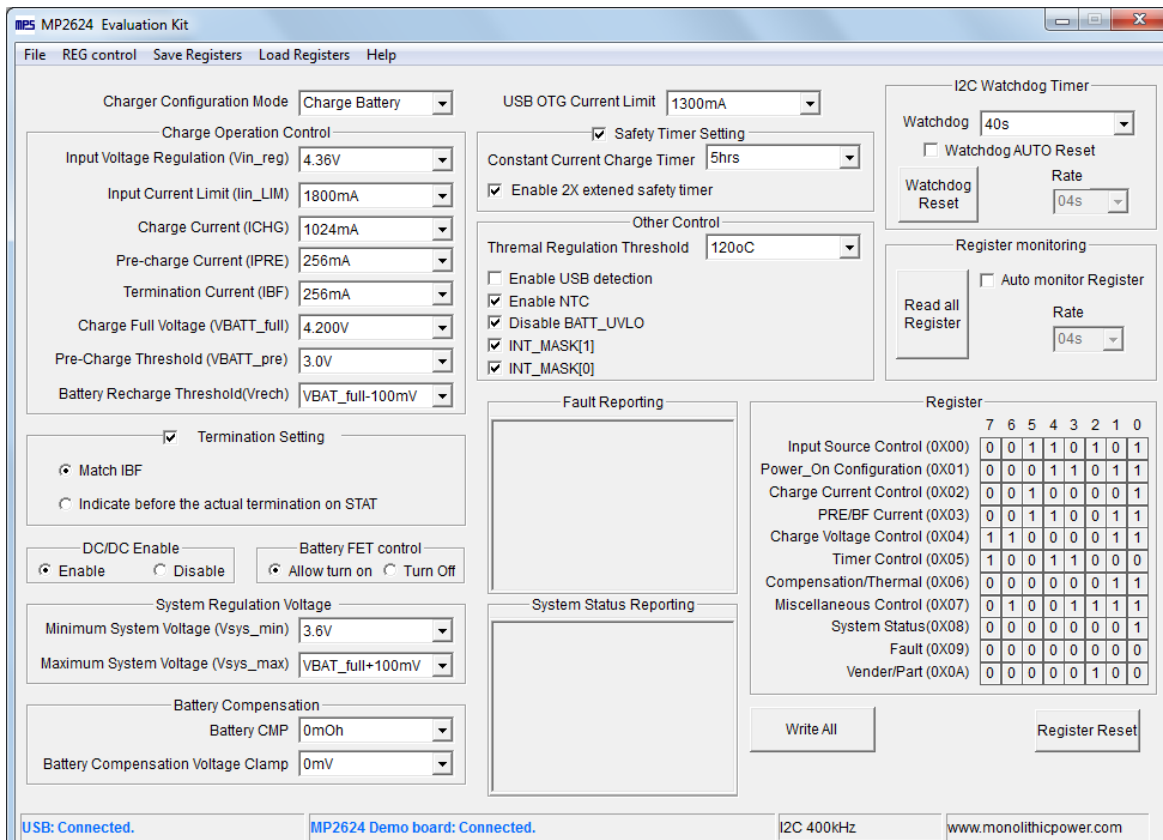

Figure 7: USB and MP2624 EVB Board Connected
- If connection is successful, both the USB and MP2624 DEMO board statuses will say "connected." (see Figure 7).
3. Click the "Read All Register" button to read the I²C register values. The default values are displayed (see Figure 7).